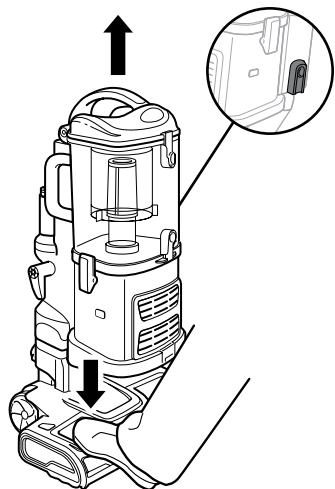

Fig. 13
- 1 Separate the portable *Lift-Away* canister from the floor nozzle by pressing the red release button **(a)** on the side of the canister. Gently hold the nozzle to the floor with your foot and pull the canister up. **(Fig. 13)**